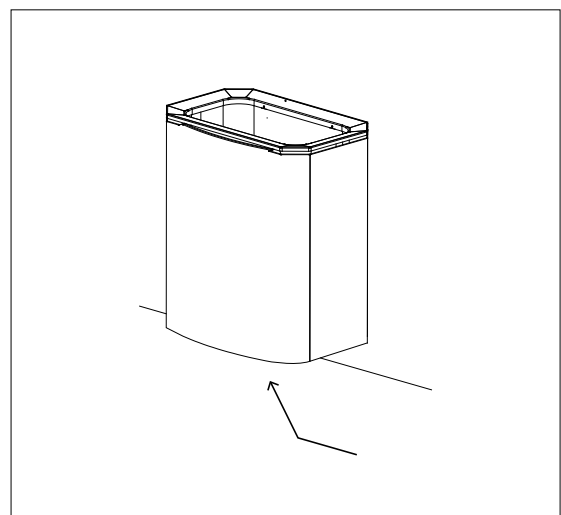

Figure 6.3-2. Location of the main switch
10. Ensure that the main switch (I/O) of the heater is in the O position (See Figure 6.3-2).